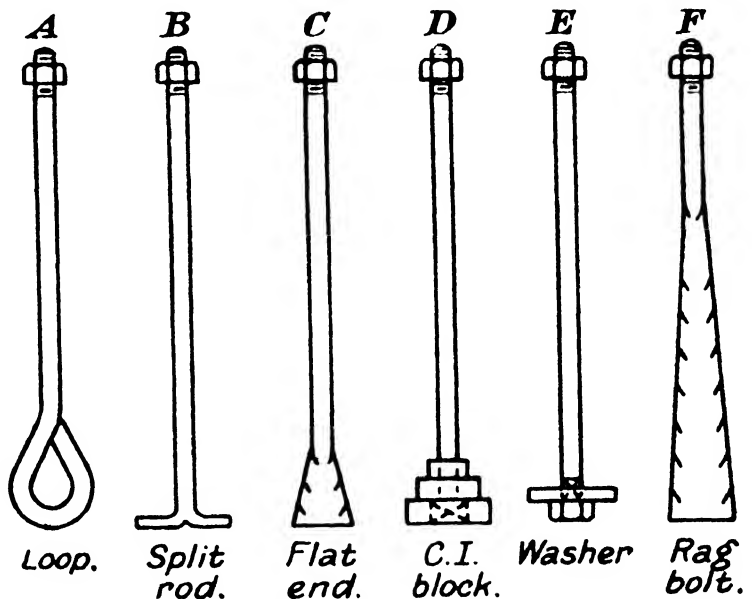

FIG. 46.—Some Holding-down Bolts.
**Holding-down Bolts.**—In Fig. 46 six common types of holding-down bolts are shown. A is a very cheap form of bolt, being just the plain rod looped at one end. B is also a cheap bolt; the end of the rod is split for about 1 in. back and then squared as shown. C is a style approaching the rag bolt and has a fish-tailed end; it will not have much anchoring effect unless a washer is added. D is an ordinary square-headed bolt which has a cast iron stepped pyramid (of stock pattern) threaded on to it; the head of the bolt fits loosely into the casting, but the recess in the latter will not allow it to turn.